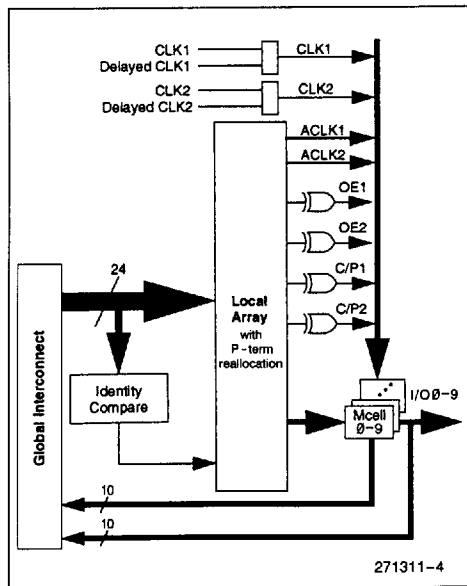

Figure 4. Control Signals
There are 4 control signals in each CFB in addition to the clocks (see Figure 4). These include two Output Enable (OE) signals, and two asynchronous Clear/Preset signals. This provides a total of 32 clear/preset and 32 output enable signals within the Military iFX8160. Each control signal is generated by a single product term from the local 24V10 AND array with an inversion option. This allows multiple product term control equations to be implemented.